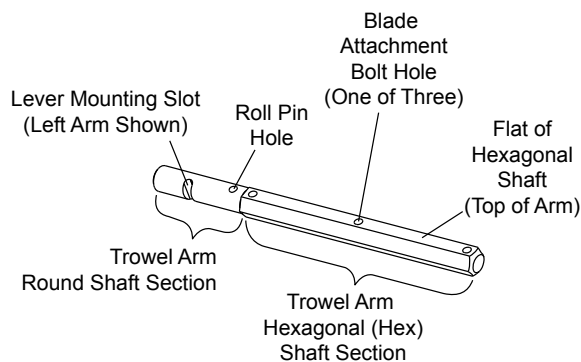
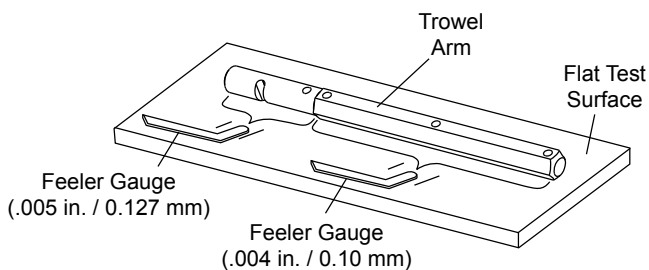

Figure 31. Trowel Arm
Figure 32. Checking Trowel Arm Flatness
Trowel arms can be damaged by rough handling, (such as dropping the trowel on the pad), or by striking exposed plumbing, forms, or rebar while in operation. A bent trowel arm will not allow the trowel to operate in a smooth fluid rotation. If bent trowel arms are suspect, check for flatness as follows, refer to Figure 31 and Figure 32.
2. Check each of the six sides of the trowel arm (hex section). A feeler gauge of .004" (0.10 mm) should not pass between the flat of the trowel arm and the test surface along its length on the test surface. (Figure 32) .